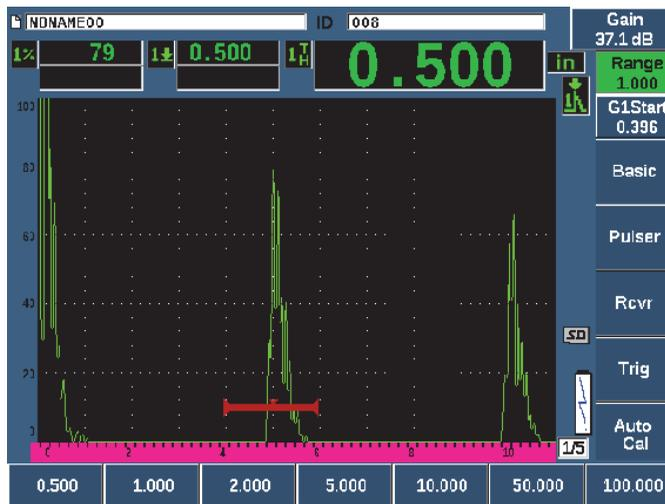

Figure 3-17 The Range value
15. Press RANGE, and then adjust the screen range to the desired setting (see Figure 3-17 on page 66).